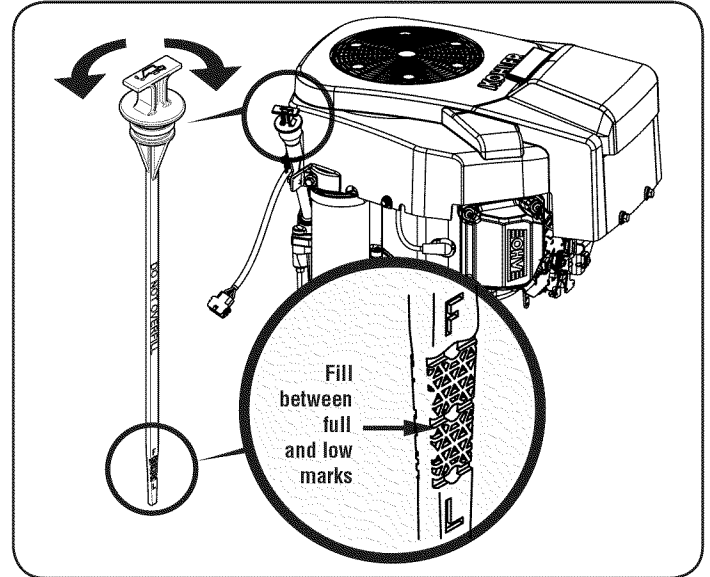

Figure 9
2. Remove the oil filler cap/dipstick and wipe the dipstick clean. See Figure 9.
4. Remove the oil filler cap/dipstick. If the level is low, slowly add oil until oil level registers between full (F) and low (L), Figure 9.